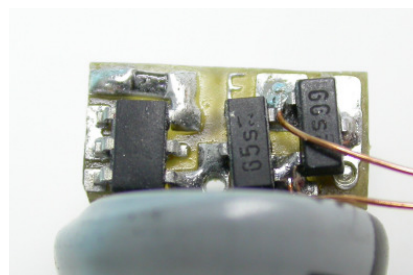

figure 3: On the top left the plus output or the anode, way on the right the minus output or the cathode
8. Looking onto the component like in figure 3, on the top left in the corner you can see the output for plus, so for the anode of the LED, and on the outer right with the long conductor the output for minus, so for the cathode of the LED. The cathodes of our LEDs are marked with black color. An incorrect polarity though does not inflict any damage, neither on the component nor on the LED, the only problem is that the LED won't be working.